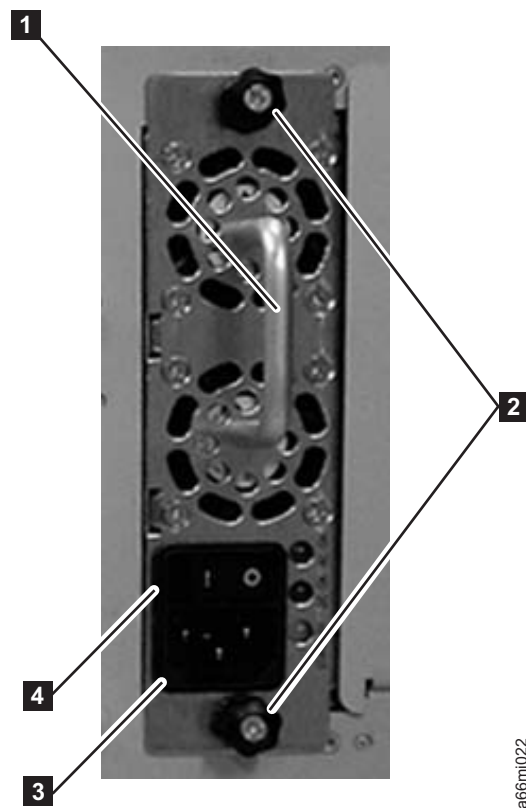

Figure 11-2. Power Supply
Attention: First, disconnect the power cord from the power source. Then, disconnect the power cord from the power supply receptacle (**3** in Figure 11-2 on page 11-3).
3. Loosen the two thumb screws (**2** in Figure 11-2 on page 11-3) by turning them counterclockwise.
4. Grasp the handle (**1** in Figure 11-2 on page 11-3) and slowly pull the power supply toward you, while supporting it from underneath.
1. Grasp the handle (**1** in Figure 11-2 on page 11-3) while supporting the power supply from underneath. Then, line up the power supply with the guides in the slot, and carefully push the power supply into the library.
2. Tighten the two thumb screws (**2** in Figure 11-2 on page 11-3) by turning them clockwise.
Attention: First, connect the power cord to the power supply receptacle (**3** in Figure 11-2 on page 11-3). Then, connect the power cord to the power source.
2. Grasp the handle (**1** in Figure 11-2 on page 11-3) while supporting the power supply from underneath. Then, line up the power supply with the guides in the slot, and carefully push the power supply into the library.
3. Tighten the thumb screws (**2** in Figure 11-2 on page 11-3) by turning them clockwise.
4. Plug in the power cord to the redundant power supply receptacle (**3** in Figure 11-2 on page 11-3).
5. Toggle the power switch (**4** in Figure 11-2 on page 11-3) to the | (ON) position.
2. Toggle the redundant power supply power switch (**4** in Figure 11-2 on page 11-3) to the **O** (OFF) position.
3. Unplug the power cord from the redundant power supply receptacle (**3** in Figure 11-2 on page 11-3).
4. Loosen the two thumb screws (**2** in Figure 11-2 on page 11-3) by turning them counterclockwise.
5. Grasp the handle (**1** in Figure 11-2 on page 11-3) and pull the power supply toward you. Support the component from underneath with your other hand.